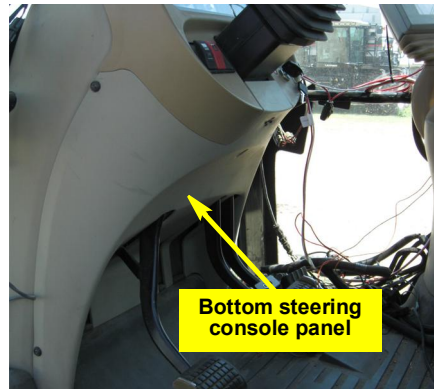

Figure 1a: Console panel location
- a. Locate the bottom steering console panel and remove it (Figure 1a).